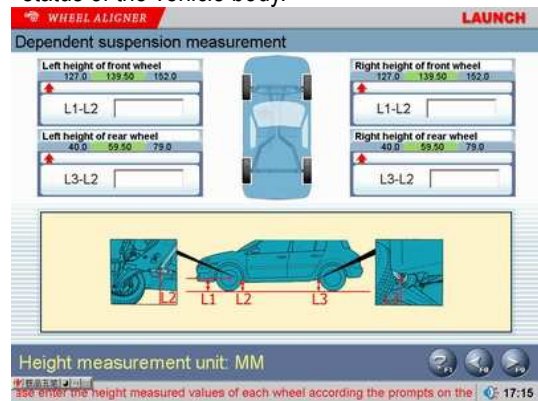

Fig.4.9
- When some special vehicle models (such as RENAULT MEGANE□) are selected, the screen will pop up an interface of [Dependent Suspension Measurement] as shown in Fig.4.9. This interface provides an operating platform for dependent suspension measurement system, in order to confirm the standard data according to the current status of the vehicle body.